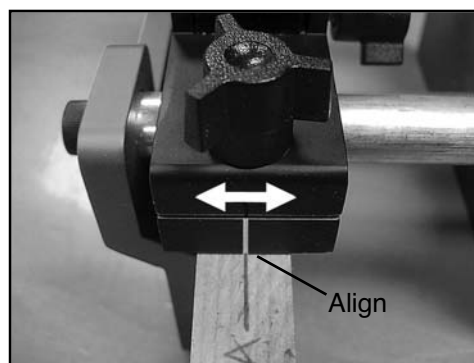

Fig. 16
5. Shift carriage assembly front to back to align with desired joint location and tighten down carriage knobs. (Fig. 16)